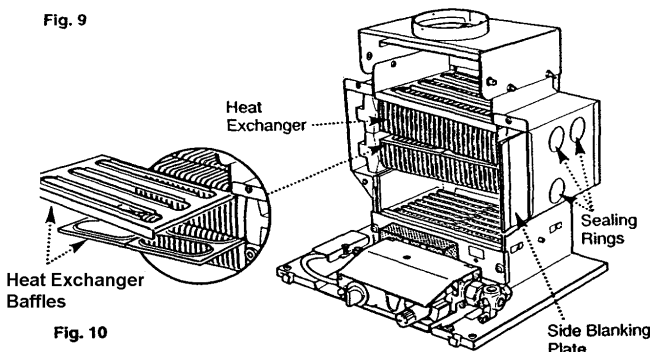

Fig. 10
2. Lift out the 3 heat exchanger baffles, noting their orientation (Fig. 10).